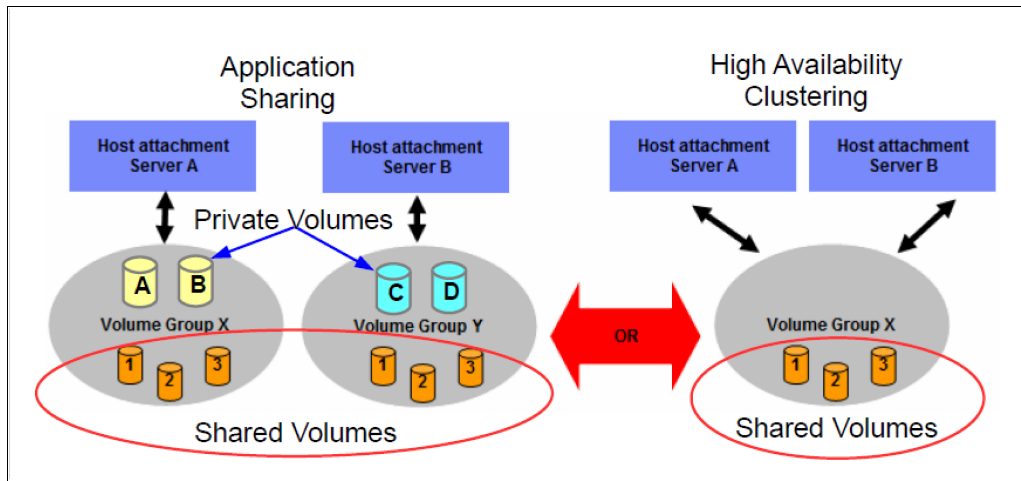

Figure 8-1 LUN configuration for shared access
- ▶ Assign multiple ranks to extent pools to take advantage of storage pool striping. Additionally, assign ranks from multiple device adapter (DA) pairs to an extent pool to spread the workload and increase performance.
- If LUN sharing is required, the following items provide two possible use cases (Figure 8-1 on page 219):